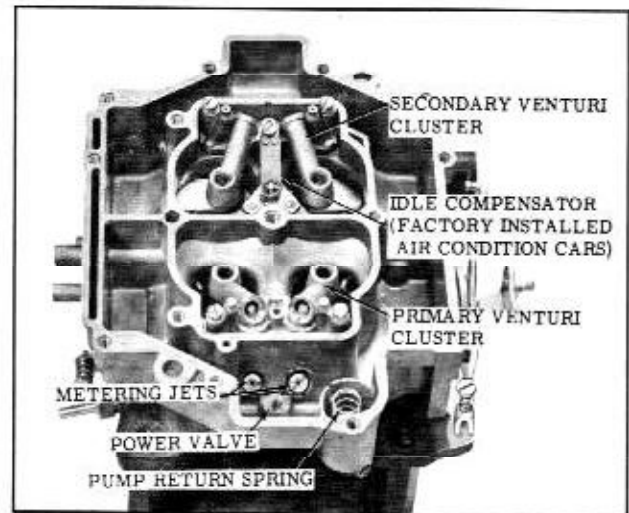

Fig. 8-99 Float Bowl Assembly
7. Remove the three attaching screws and lock washers from the venturi cluster on the primary side, then remove the cluster and gasket. (Fig. 8-99)